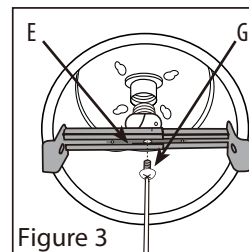

Figure 3
4. Raise the adjustable channel brace (C/D) into the recessed can and slide the inner and outer sections of the channel brace as wide as possible, so that the both ends of the brace are against the sides of the recessed can, move the locking bar (E) to the center of the channel brace, then tighten the center screw (G) (Figure 3).